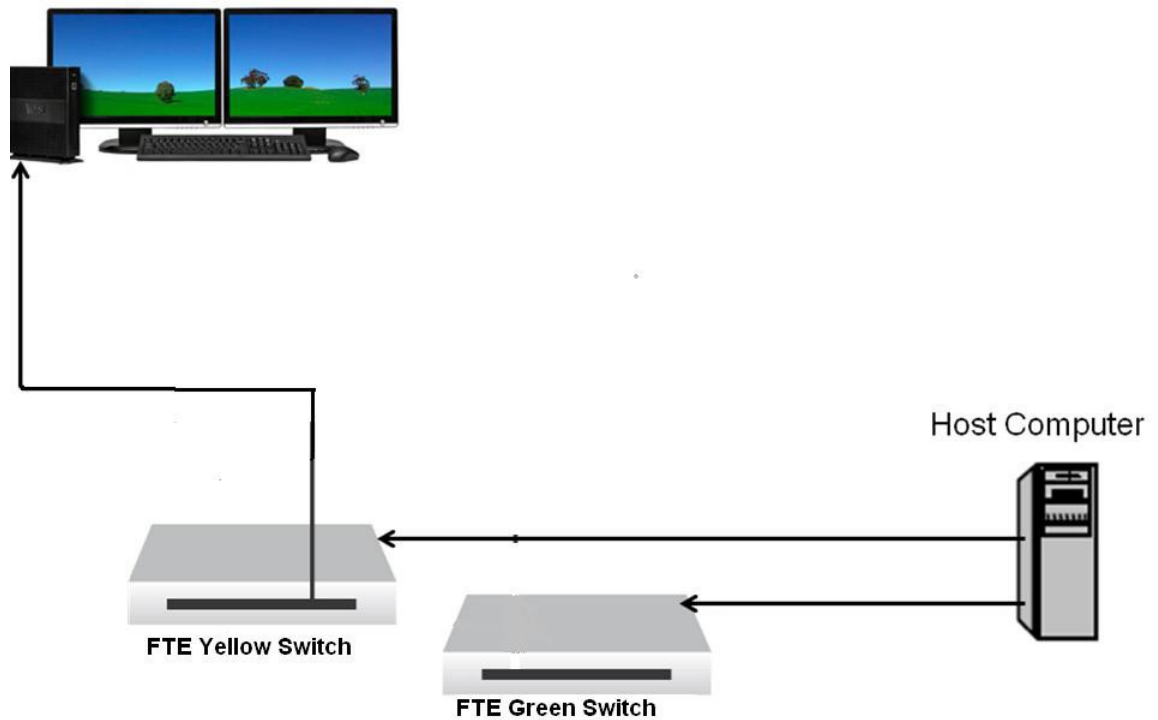

Figure 1: Dell Wyse Z90DE7 Thin Client desktop configurations without Redundant Port Protector
- 2 Connect the LAN connection on the RPP to the network port that is item 9 in “Figure 1”.